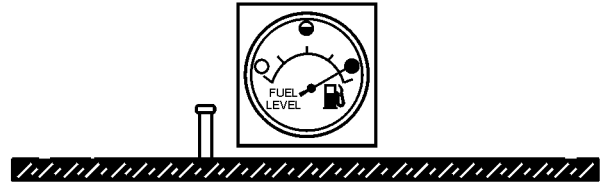

Figure 20. Full Fuel Tank
5. **NEVER overfill fuel tank** — It is important to read the fuel gauge when filling trailer fuel tank. **DO NOT** wait for fuel to rise in filler neck (Figure 20).